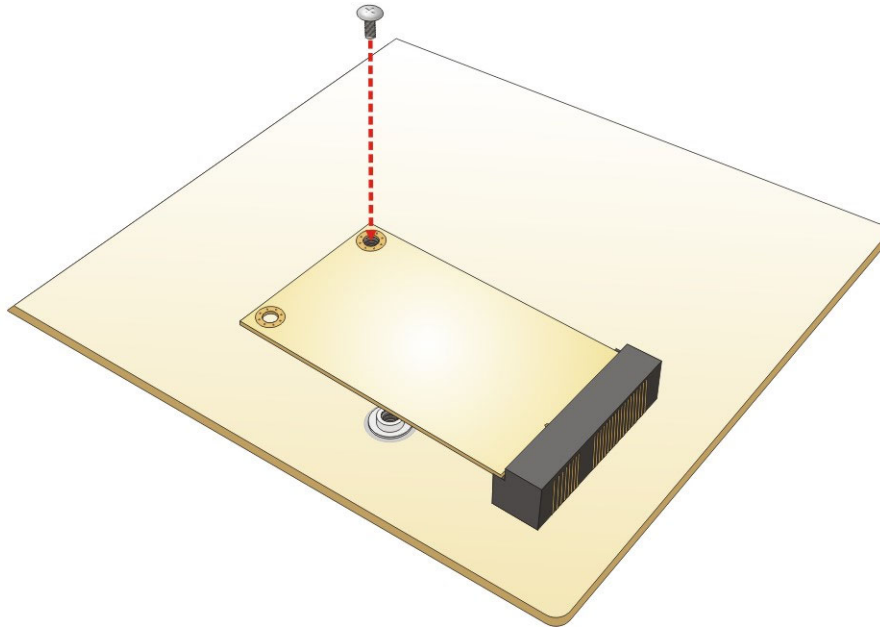

Figure 4-10: Securing the Full-size PCIe Mini Card
Step 5: **Secure the full-size PCIe Mini card.** Secure the full-size PCIe Mini card with the retention screw previously removed (**Figure 4-10**).